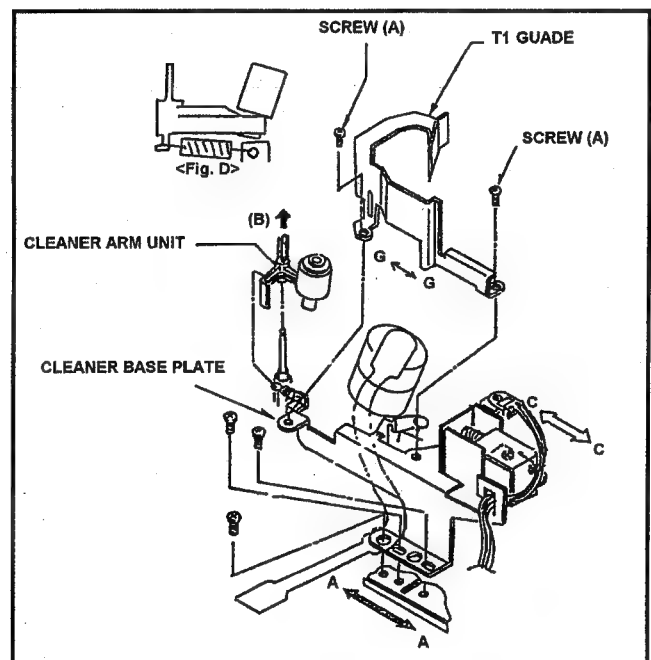

Fig. 6-1-5 Removal of Cleaner Roller Unit
2. Unscrew the 2 screws (A) and remove the T1 Guide as shown in Fig. 6-1-5.
3. Expand the tip portion (B) of cleaning Arm Unit and pull up the Cleaning Arm Unit, and hang off the spring from the Cleaner Arm Unit as shown in Fig. 6-1-5.